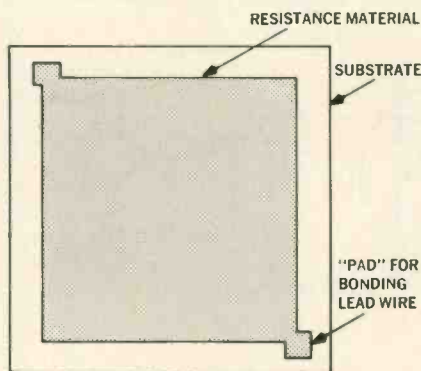

Fig. 4—Low ohmic value resistor made by using large area of chip to achieve more "parallel" paths.
*Low* values of resistors require thick cross-sections, because very thin films have too much resistance per unit length. Monolithic resistors are measured in microns of thickness; therefore, low ohmage resistors can be made only by increasing the *width* of the resistor to provide, in effect, many parallel circuit paths, as shown in Fig. 4. This too uses up much of the chip area for a single resistor. To get around this problem, circuits have been devised which use only resistance values between about 500Ω and 50K. Fig. 5